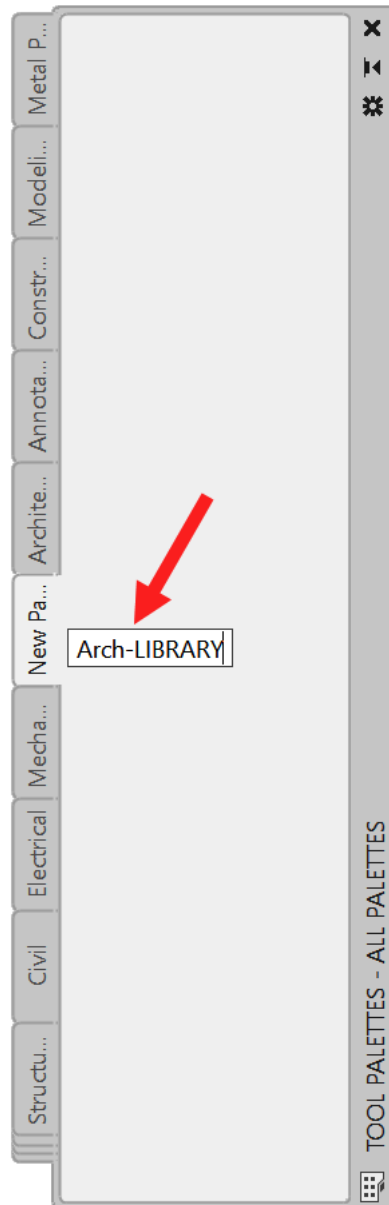

Figure 9.28: The new palette tab being named
7. A new palette tab is added to the **Tool Palettes**, and you are prompted to name it. Type in `Arch-LIBRARY`, as shown in *Figure 9.28*, and press *Enter* to confirm the tab name.